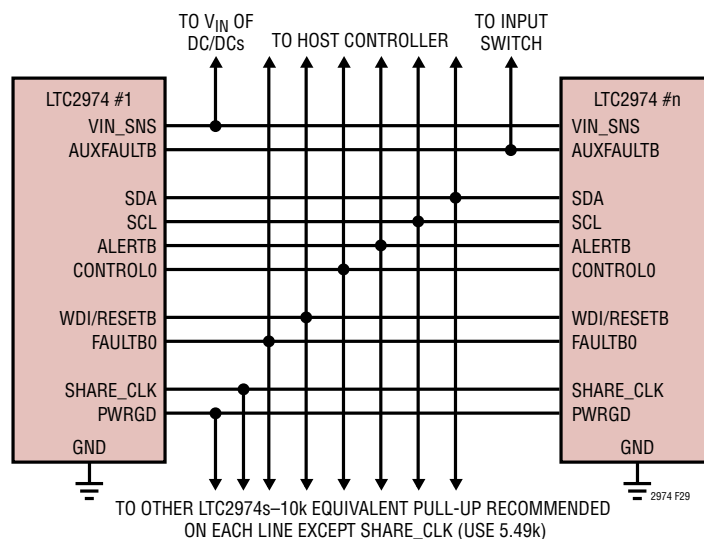
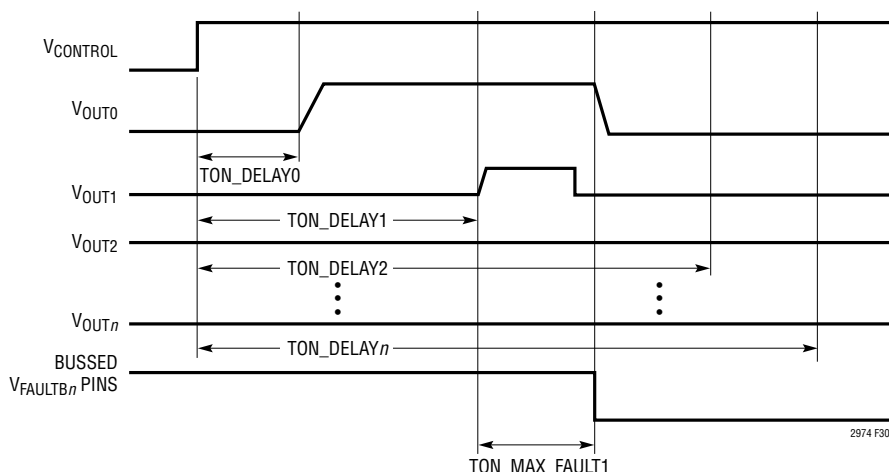

Figure 29. Typical Connections between Multiple LTC2974s
Figure 30. Aborted On-Sequence Due to Channel 1 Short
Figure 29 shows how to interconnect the pins in a typical multi-LTC2974 array.
- The FAULTB lines can be connected together to create fault dependencies. Figure 29 shows a configuration where a fault on any FAULTB will pull all others low. This is useful for arrays where it is desired to abort a startup sequence in the event any channel does not come up (see Figure 30).
- PWRGD reflects the status of the outputs that are mapped to it by the MFR\_PWRGD\_EN command. Figure 29 shows all the PWRGD pins connected together, but any combination may be used.